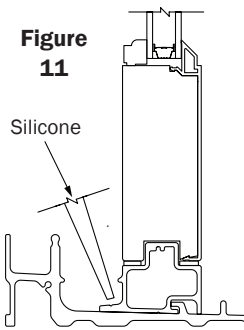
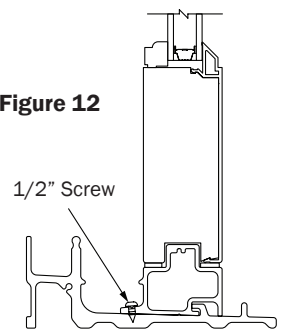

Figure 11
Figure 12
- Place silicone into pre-drilled holes before screw placement (Fig. 11) and attach two (2) #7 x 1/2" Flat Head Screws through sill lug and into sill (Fig. 12).